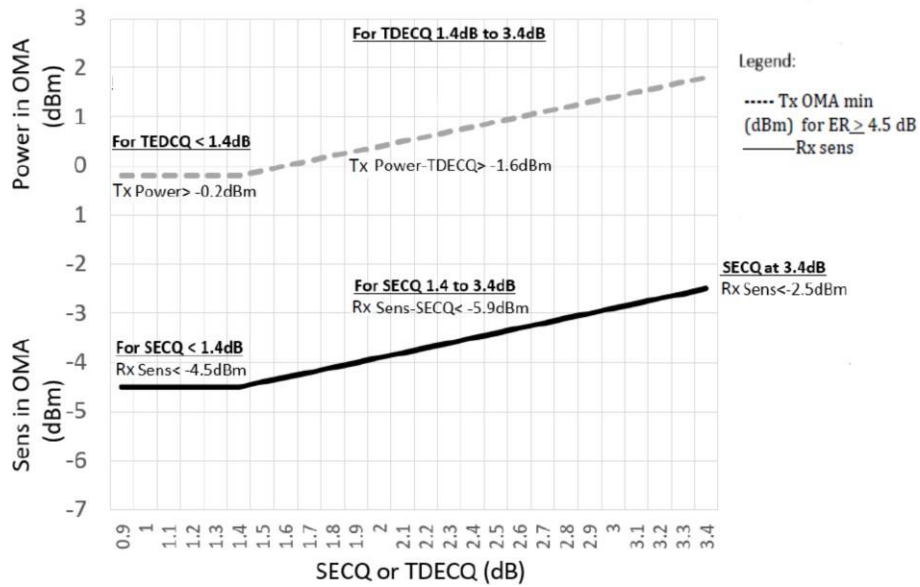

Figure 4. Illustration of Receiver Sensitivity Mask for 100G-FR
7. Receiver sensitivity (OMA_{outer}) (max) is informative and is defined for a transmitter with a value of SECQ up to 3.4 dB. It should meet Equation (1), which is illustrated in Figure 4.